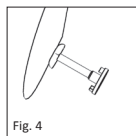

Fig. 4
■ **Fig. 4** The stamp-like part of the sizer is used to support the stapes footplate during the measurement process. The plate-shaped part is designed to lie against the tympanic membrane. The thickness of the graft (e.g. disk of cartilage), later used to line the tympanic membrane is taken into account when calculating the length of the prosthesis. Once the optimum length has been determined, the total prosthesis of the correct length can be selected / adjusted.